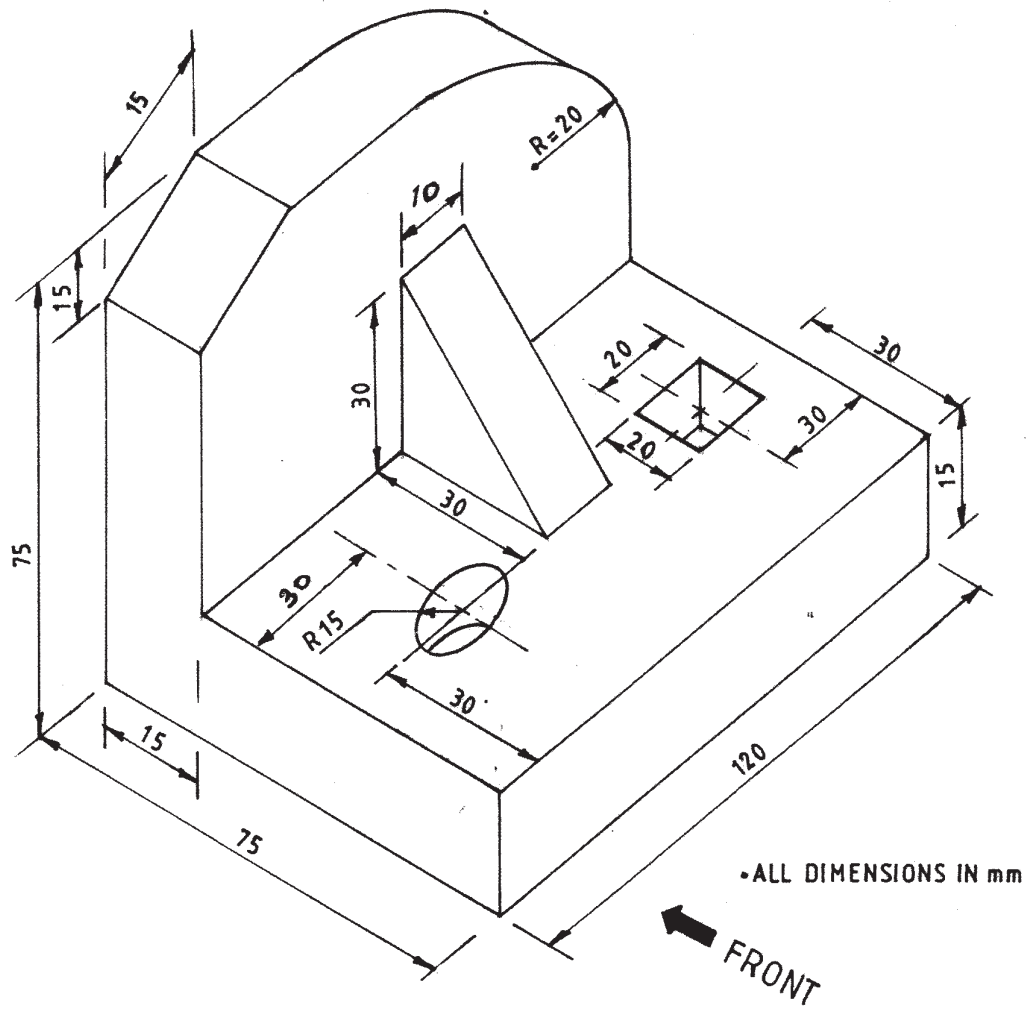

Figure 2
Figure 2 shows a pictorial view of a shaped block.
- 11 Figure 2 shows a pictorial view of a shaped block.